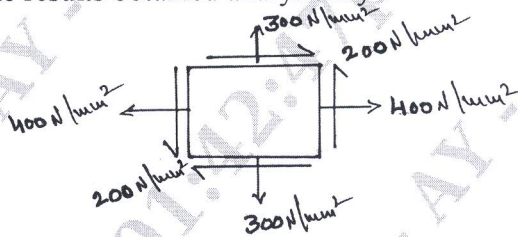

Fig.Q.4(a)
- b. The state of stress in two dimensionally stressed body is shown in Fig.Q.4(b). Determine the principal stresses, principal planes, maximum shear stress and their planes. Also draw the Mohr's circle to verify the results obtained analytically. (16 Marks)